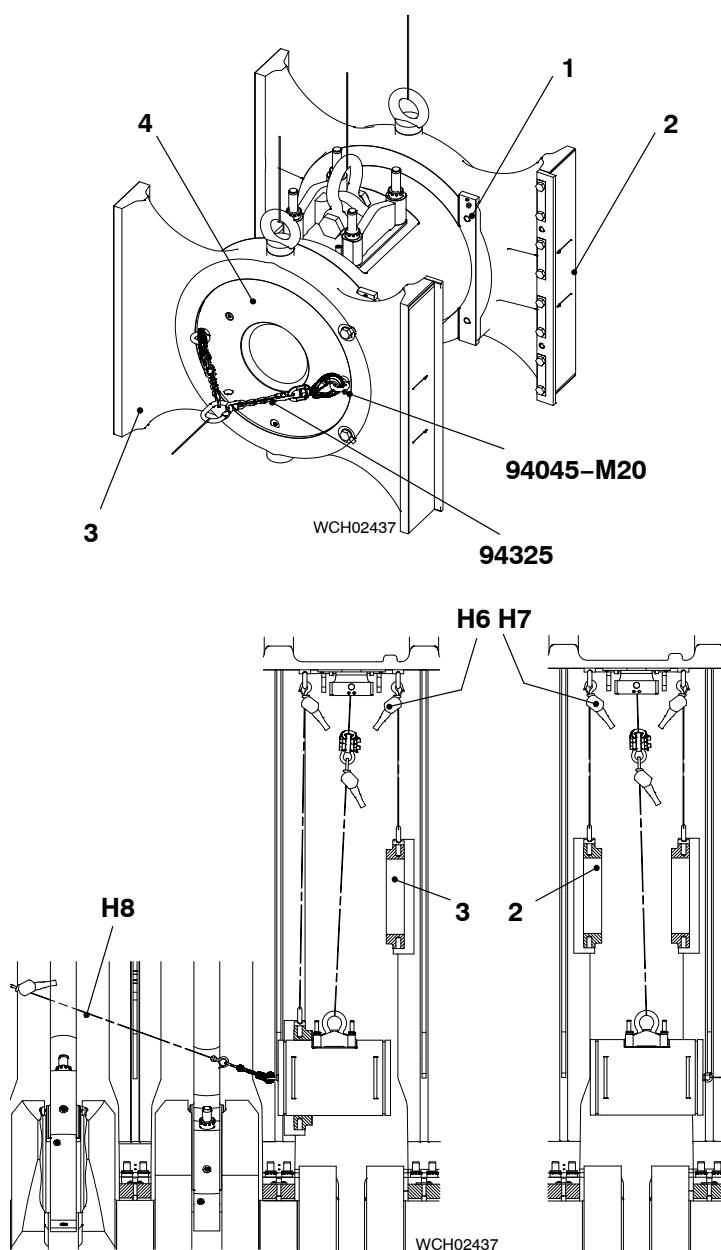

Fig. 3
- 24) Remove the two bolts, tab washers and holding plates (1, Fig. 3) from the guide shoe (4).
- 25) Attach the two eye bolts (94045-M20) and the chain (94325) to the crosshead pin (4).
- 28) Operate the manual ratchet (H8) to pull the crosshead pin (4) until the guide shoe (3) is clear.
- 29) Operate the manual ratchet (H6) to lift the guide shoe (3).
- 33) Operate the manual ratchet (H8) to pull the crosshead pin (4) until the guide shoe (2) is clear.
- 34) Operate the manual ratchet (H7) to lift the guide shoe (2).
- 2) Operate the manual ratchet (H6, Fig 3) to lower the guide shoe (3) to the level of the door frame.